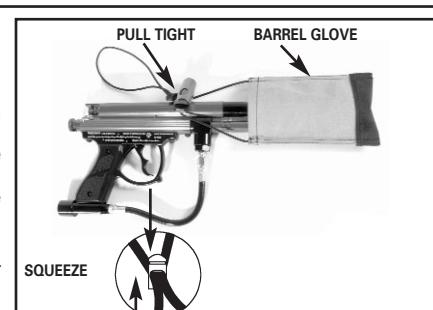

Fig. 3
Place the BARREL GLOVE over the barrel (Fig. 3).
Make sure the BARREL GLOVE is placed over the barrel (See Fig. 3).
- Make sure the BARREL GLOVE is placed over the BARREL (See Fig. 3).